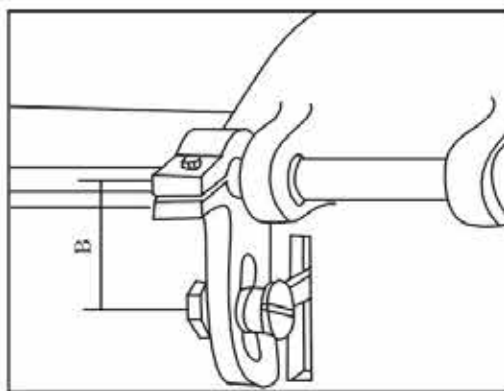

图13
二十九、摆压脚、压脚前后防线间隙的调节（图13）
29. Adjusting of the front and back direction space of swing presser and presser (shown in fig 13)